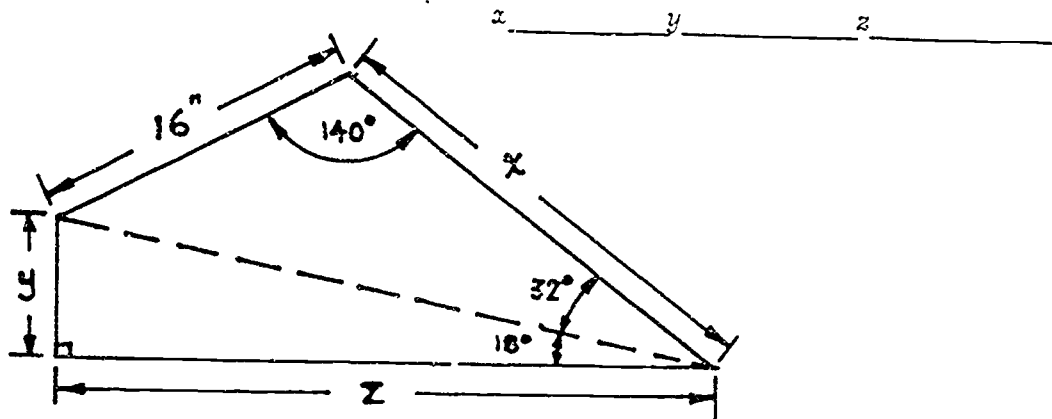

Figure 7: Find x , y , and z .
1. A sketch with dimensions as shown in Figure 7 is given to you to lay out prior to machining. To complete the layout, you must find dimensions x , y and z .